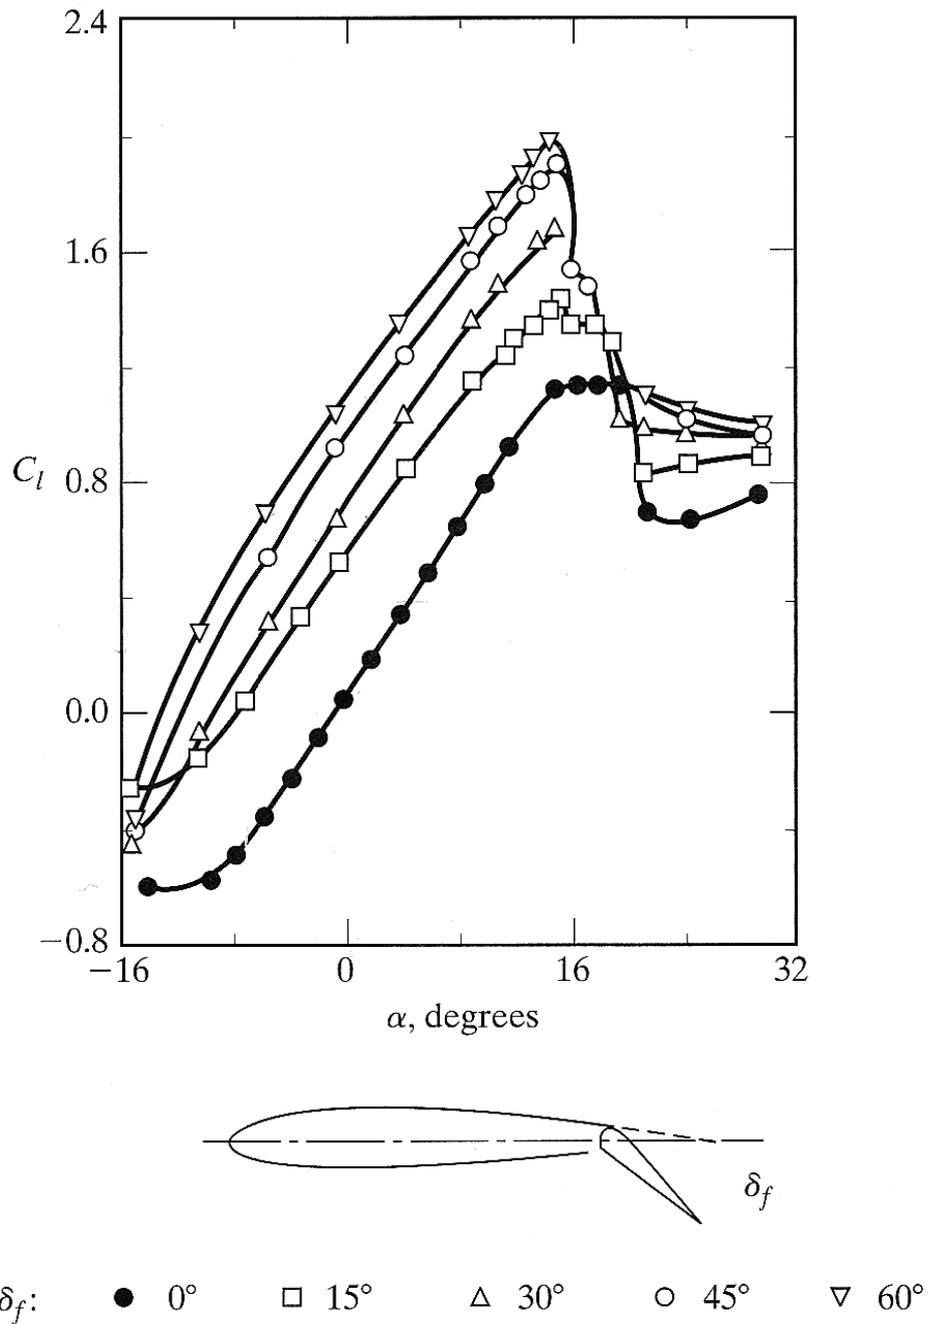

Figure 7.1: Wind tunnel data for the tailplane lift coefficient
- The tailplane characteristics are presented in figure 7.1 below.